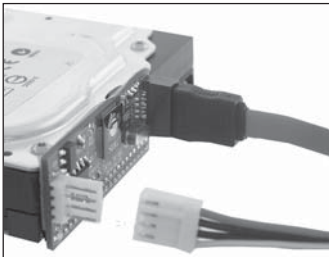

Figure 6
6. Connect the "Y" split power cable to the *SATA-to-IDE Adapter*, refer to **Figure 6** and **7**.